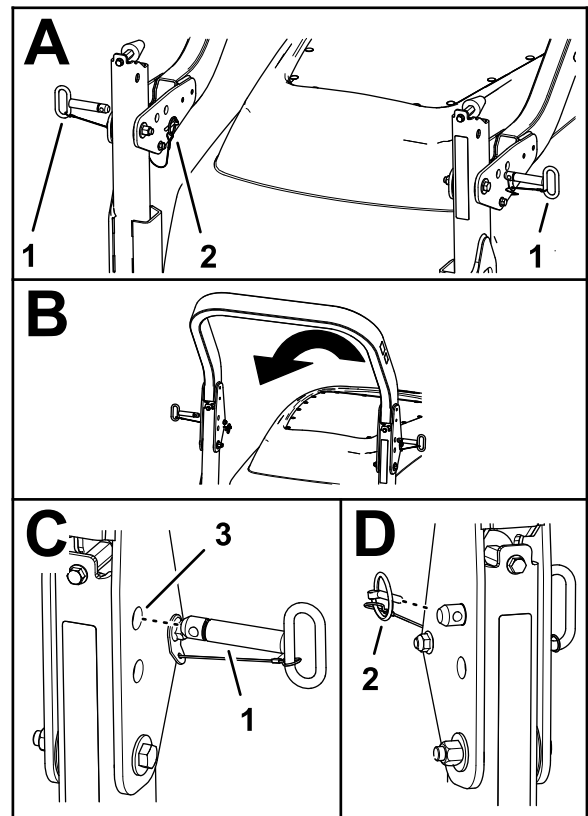

Figure 63
- Remove the lynch pins that secure the roll-bar pins at each side of the roll bar (Figure 63).